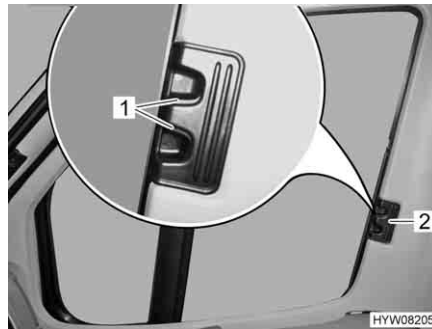

Fig. 86 Roman shade for driver's and passenger's window
- Press the release handles (Fig. 86,1) and hold them down.
- Using the handle (Fig. 86,2), draw the Roman shades for the driver's and passenger's window to the other side of the window and secure them to the magnetic strips.
- Use handle (Fig. 86,2) to push in the Roman shades for the driver's and passenger's window as far as possible.
- Let go of the release handles (Fig. 86,1) and let them engage.